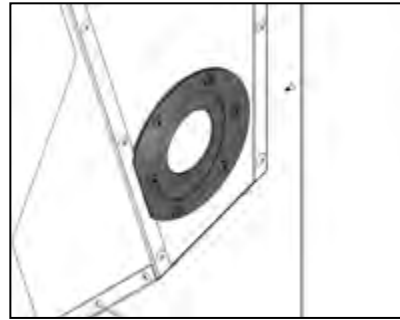

Figure 10-3: Diaphragm sealing plate
10. Remove the blank cover plate but leave the diaphragm sealing plate (located behind it) in place. Re-fit the six screws and tighten to secure the diaphragm sealing plate. Refer to Figure 10-3.